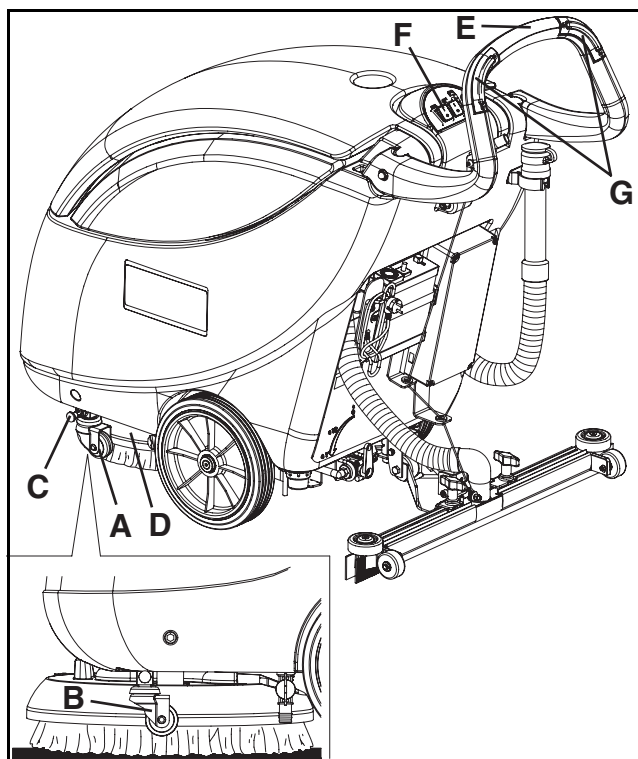

Figure 12
3. Deactivate the transport/parking device (A, Fig. 12) by putting it in position (B) after inserting the relevant pin (C).
4. Lift the brush cover (D, Fig. 12) by prying the handlebar (E).
6. Lower the cover (D, Fig. 12) by means of the handlebar (E).
7. Press the brush push-button on "I" (Fig. 12, F), then press on or both push-buttons (Fig. 12, G) for a few seconds.